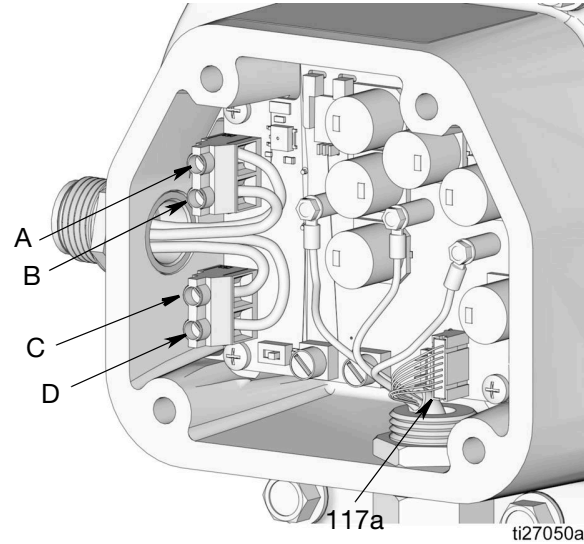

FIG. 67
7. Disconnect the sensor cable (117a) from the motor control board (FIG. 67).
8. Disconnect the source to the power input (A and B) and the pump control connections (C and D) (See FIG. 67 and Control Panel, page 13).
2. Connect source to the power input (A and B) and the pump signal connections (C and D) (FIG. 67 and A,B,C,D, page 13). Torque to 5.5 - 7 in-lb (0.62 - 0.79 N•m).